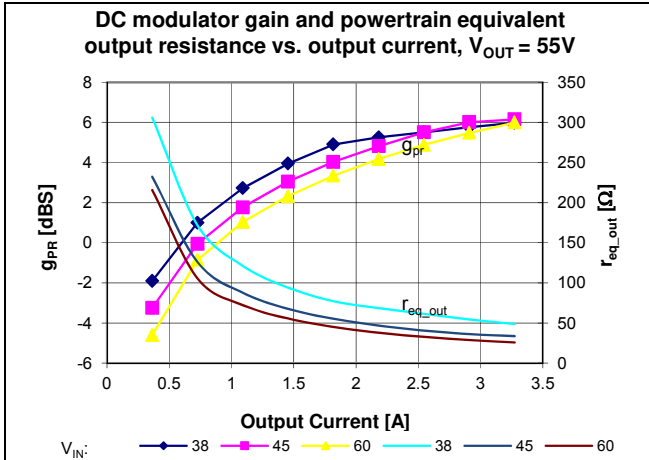

Figure 17 – Powertrain characteristics vs.  $I_{OUT}$ ; Resistive load,  $V_{OUT} = 55V$ , various  $V_{IN}$
The powertrain small signal (plant) response consists of a single pole determined by the load resistance, the powertrain equivalent output resistance, and the total output capacitance (internal and external to the module). Both the modulator gain and the equivalent output resistance vary as a function of line, load and output voltage, as shown in Figures 17, 18 and 19. As the load increases, the powertrain pole moves to higher frequency. As a result, the closed loop crossover frequency will be the
- Modulator Gain  $G_{PR}$ : See Figures 17, 18, 19